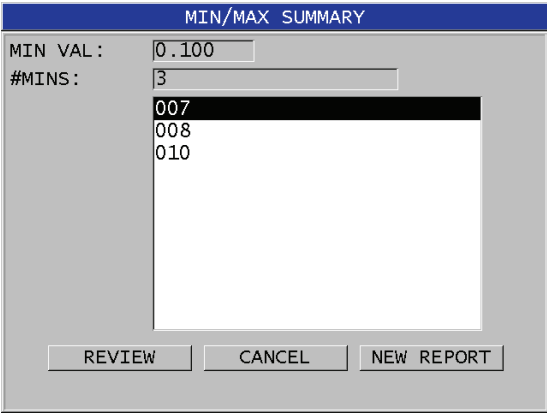

Figure 11-37 The MIN/MAX SUMMARY report result screen
- The **MIN/MAX SUMMARY** report result screen opens with the minimum thickness ID highlighted (see Figure 11-37 on page 200).